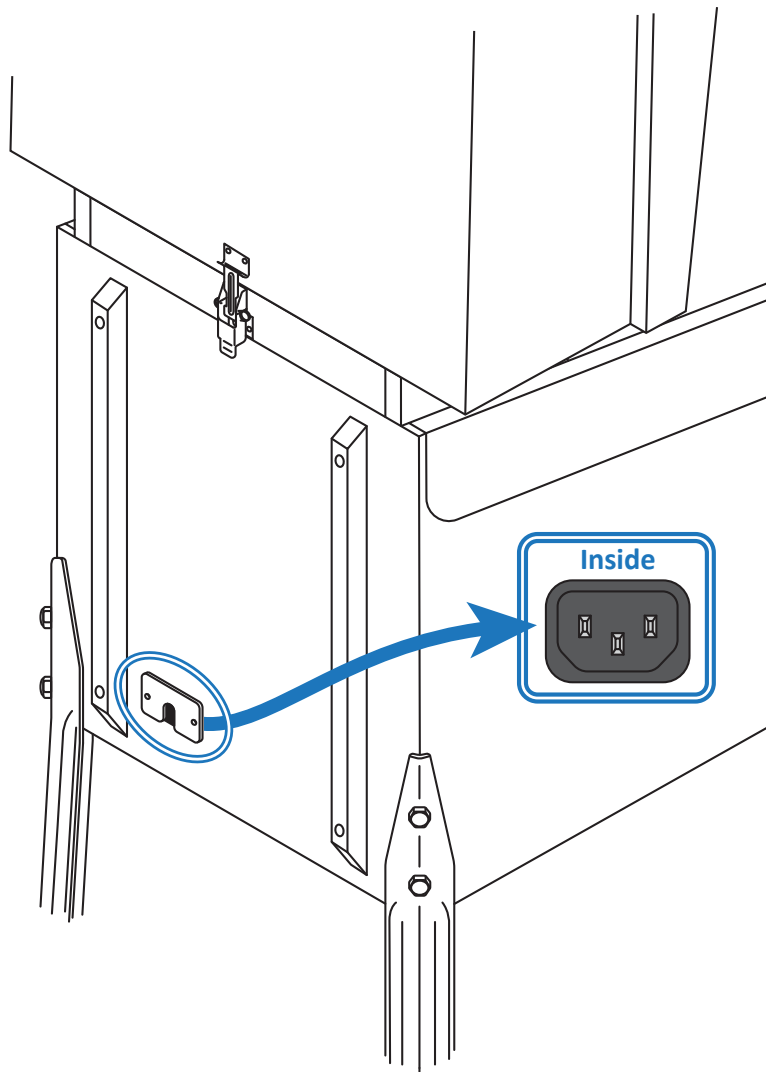

Figure 1-18. Line cord cover location.
20) Locate the power cord, line cord cover and screws in the loose parts. Plug the female end of the power cord into the exposed IEC receptacle, inside the back of the machine. Using a #2 Phillips screwdriver, install the line cord cover plate on the rear of the lower cabinet (figure 1-18) and plug the power cord into a grounded wall outlet. **DO NOT CUT THE GROUND LUG OFF OF THE POWER CORD!**